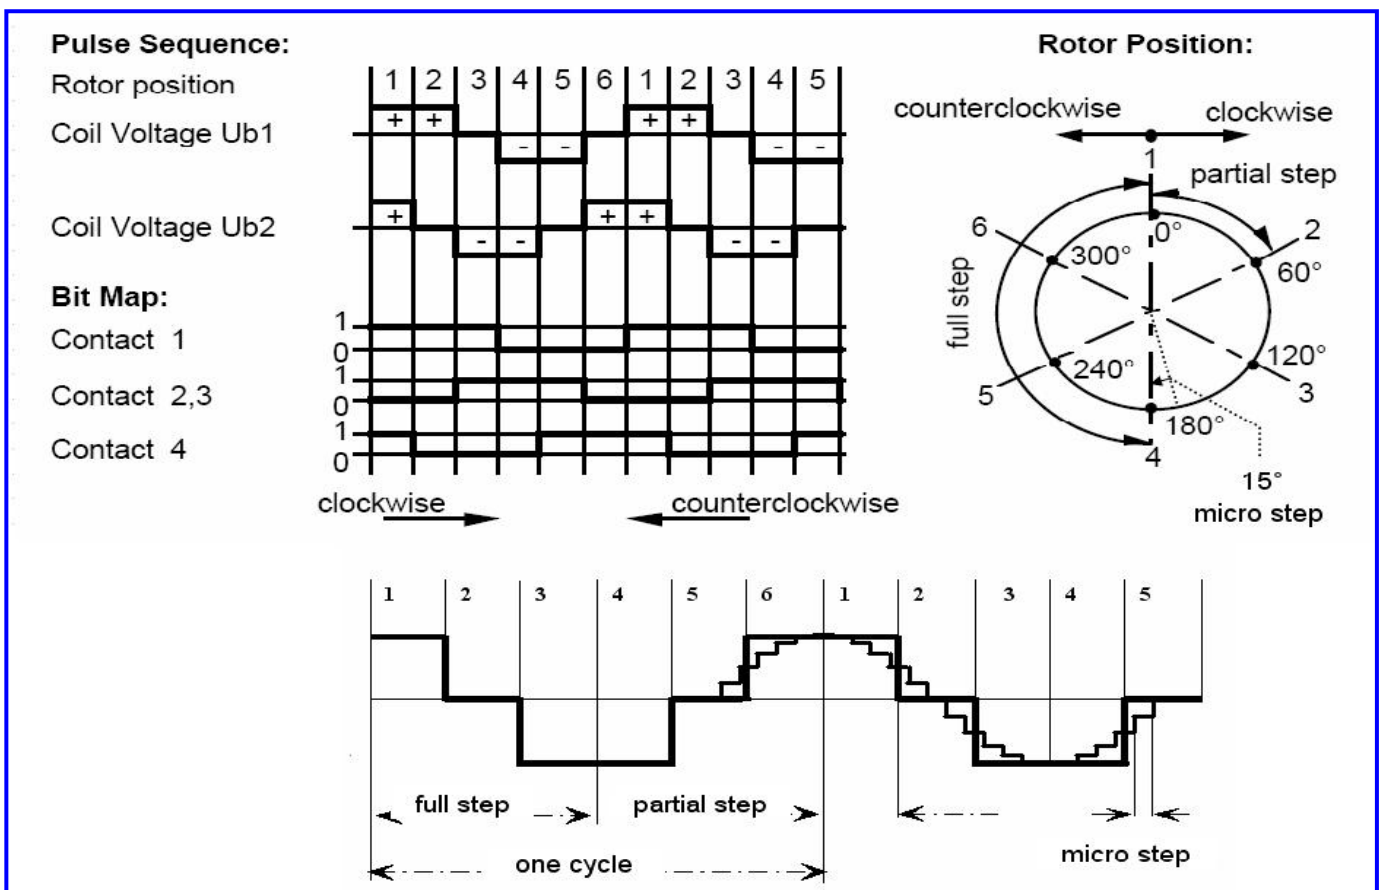

Fig.11
--As mentioned earlier, a partial step is an angular rotation of  $1/3^\circ$  of the motor shaft or an angular rotation of  $60^\circ$  of the rotor. The motor also can be driven directly by micro step, and a micro step is an angular rotation of  $1/12^\circ$  of the motor shaft or an angular rotation of  $15^\circ$  of the rotor (see Fig.11). The micro stepping allows a continuous smooth movement of a pointer if the motor is used as a pointer driver.